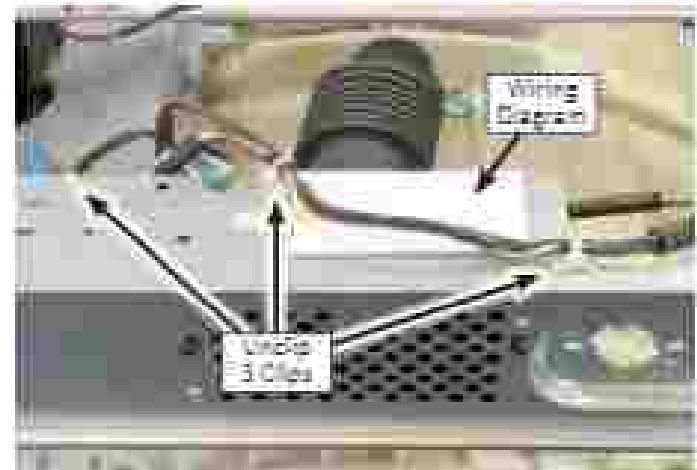

Figure 2
NOTE: Reference the ACU Board diagram on page 5-7 "ACU Connectors & Pinouts - Figure 2" for connector identification and locations.
12. Using needle nose pliers, remove harness clips from rear bracket (see Figure 2).